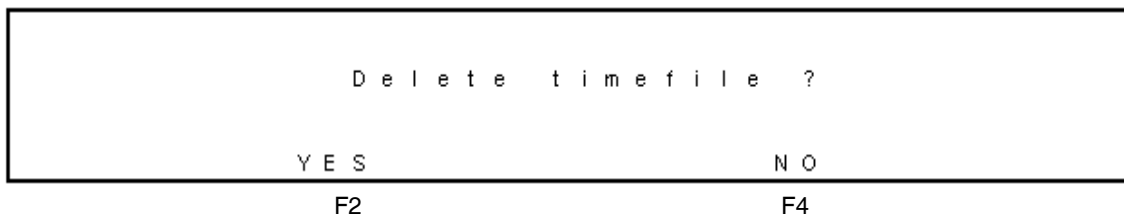

Figure 3-50 Delete Timefile Screen
a. Select **F3 DEL**. The Delete Timefile screen appears (Figure 3-50).